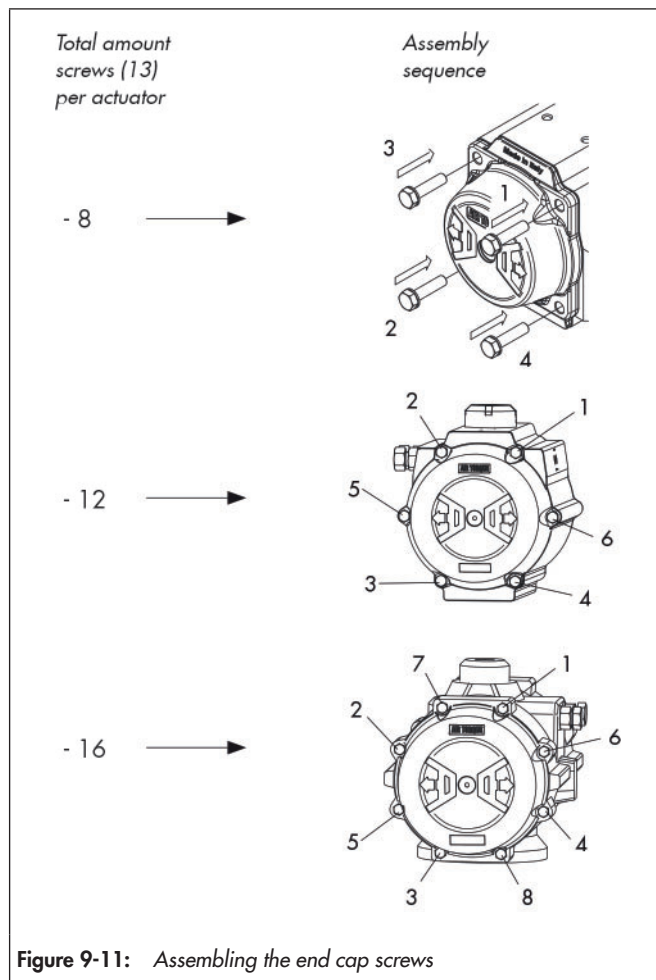

Figure 9-11: Assembling the end cap screws
- ⇒ Observe the installation sequence, see Figure 9-11.
- ⇒ Assemble the end cap on the housing (29).
- ⇒ Complete tightening the screws (13), tighten each screw in the indicated order one rotation each, see Figure 9-11.
- ⇒ Insert both adjusting screws (2), lock nuts (4), washers (3) and seals (11).
- ⇒ Screw the adjusting screws (2) into the housing, observe the end position adjustment.
- ⇒ Place the position indicator (19) on the shaft and pay attention to the correct position.